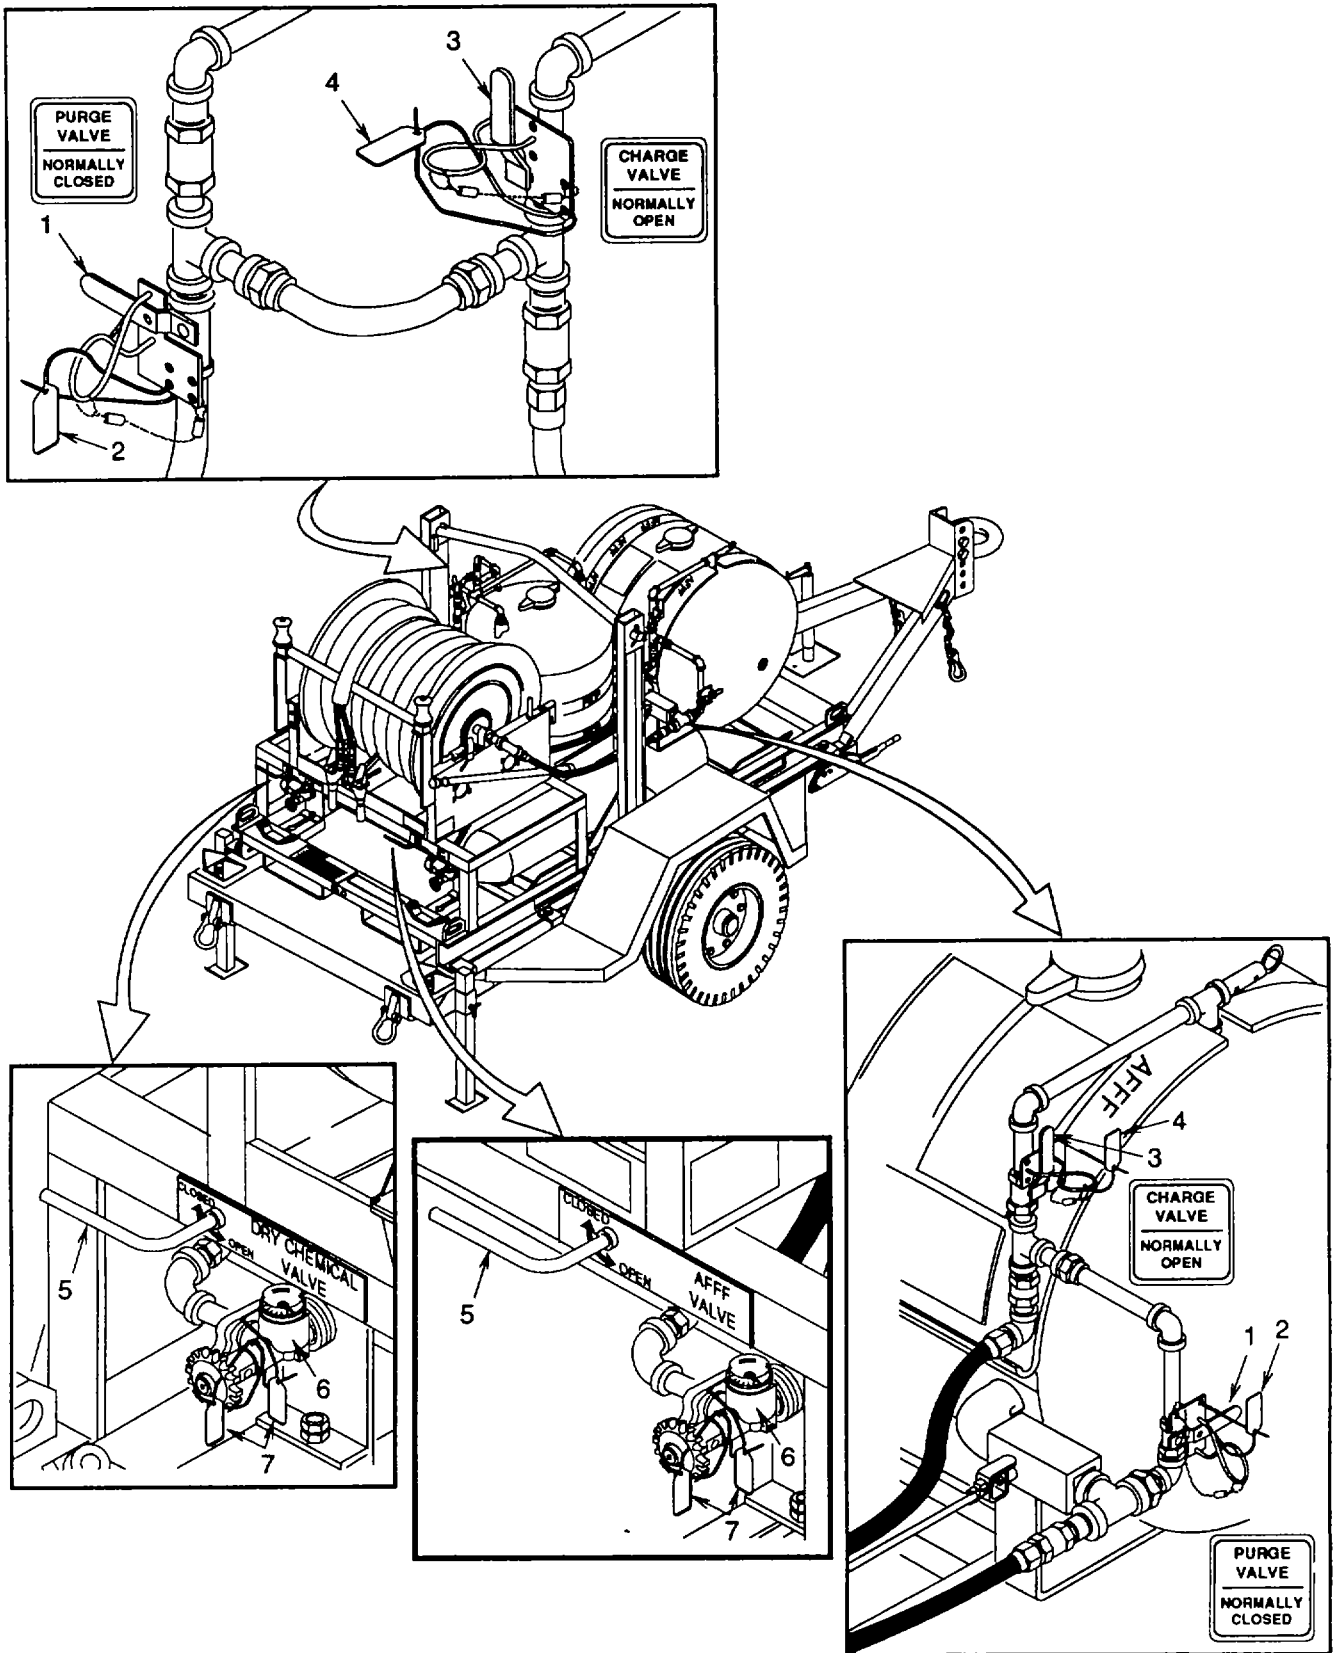

Figure 2-8. Ready State Valve Position
- (a) The trailer mounted extinguisher assembly can be used as a portable unit being towed or set-up for stationary use. The unit does not need to be precisely leveled. Refer to figure 2-8 for recommended locations with respect to bulk fuel tanks and auxiliary mobile hose reel cart to provide safety of operation and maximum effectiveness